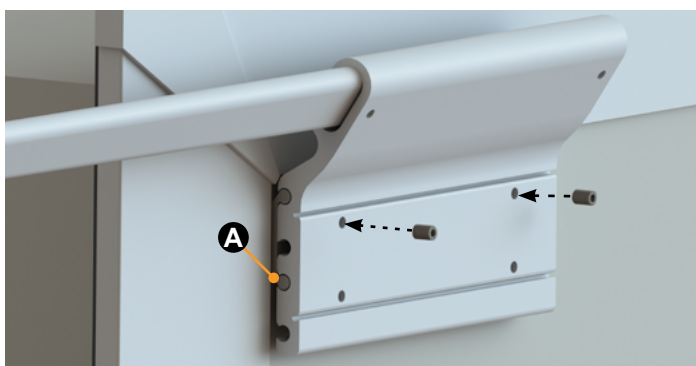
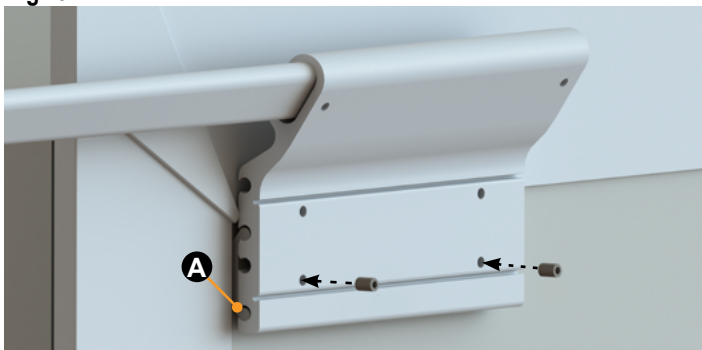

Fig.16
Fig.17
7. Install the two provided  $\frac{1}{4}$ " - 20 x  $\frac{1}{2}$ " set screws in the top two holes of the access bracket (Fig.16) if using the lower position. Install two set screws in the lower two holes of the access bracket (Fig.17) if using the higher position.